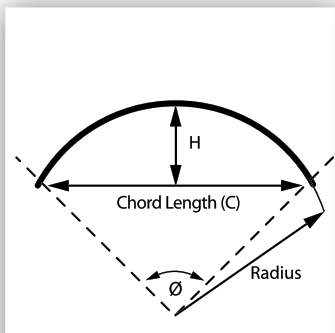

Figure 8:
2. Measure the corresponding chord length (C) - refer to Figure 8.
3. Measure the corresponding centre offset (H) - refer to Figure 8.